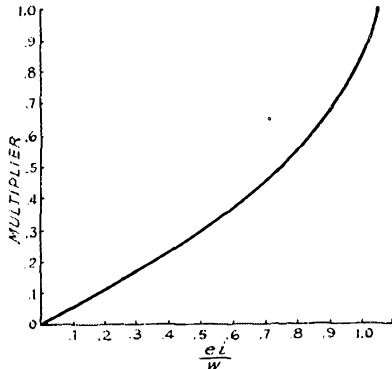

Fig. 2
watts by any misadjustment of the circuit, even including such mistakes as removing plate voltage entirely. (In this, and in all other formulas to follow, currents must be expressed in amperes, voltages in volts, and resistances in ohms.) From expression (1) it turns out that for most tubes,  $a$  may be chosen anywhere within a considerable range of values without the maximum possible screen dissipation exceeding the allowable value. One thing of interest is to find out how small  $a$  can be made without danger of exceeding the allowable screen dissipation, because the smaller  $a$  can be made the better the screen voltage regulation. This can be found as follows: Let  $W$  be the allowable watts screen dissipation while  $ei$  is of course the normal screen dissipation. (To play extra safe  $W$  can be taken somewhat smaller than the maximum rating if desired.) Then the smallest safe value for  $a$  is obtained by multiplying the quantity  $E/2i$  by the multiplier given by Fig. 2. Once the value of  $a$  is decided upon,  $b$  may be obtained from the formula
That is all there is to it. To show how the calculation is made in a particular case, consider the 813 tube acting as a grid-modulated amplifier. From the tube instruction sheet we find  $E = 2000$ ,  $e = 400$ ,  $i = 0.003$ , and  $W = 15$ . Let us decide to play extra safe and take  $W$  as 10 watts. Then  $ei/W = 0.12$  and from Fig. 2 the multiplier is
Having now obtained some values for  $a$  and  $b$  that will make the screen safe under any and all conditions, let us see what sort of voltage regulation there will be. Under normal conditions, of course, the screen voltage will be 400. Now suppose that screen current is stopped completely, as by lack of excitation in the presence of cut-off bias. Then the voltage will become 2000 multiplied by the ratio  $b/(a + b)$ , or  $\pm 12$  volts. This is not much of a rise. In fact, it is so little that we had better start all over again and assume a much smaller value of  $W$  so as to come out with much higher values of  $a$  and  $b$  and thus not waste so much power in them, a thing especially to be avoided in case the voltage applied to  $a$  and  $b$  is modulated. So let us jump to the extreme case of setting  $W$  equal to the normal screen input. Then the screen input is always lessened when the adjustments of the transmitter depart in any way from normal. Taking  $ei/W$  as unity, Fig. 2 gives a multiplier of unity and  $a$  is found to be a third of a megohm. As a result,  $b$  must be two-ninths of a megohm. These resistances are now so great that there is not much power wasted in them, but the regulation is not as good as before. In fact, the screen voltage will be found to rise to twice its normal voltage in the absence of screen current whenever we take  $W$  as equal to the normal screen input in calculating  $a$  and  $b$ .
Equate expression (1) to a desired maximum possible dissipation  $W$  and solve for  $a$  and we find  $a = \frac{E}{2i} \left[ 1 - \sqrt{1 - \frac{ei}{W}} \right]$ . The bracketed term of this is what has been plotted in Fig. 2.